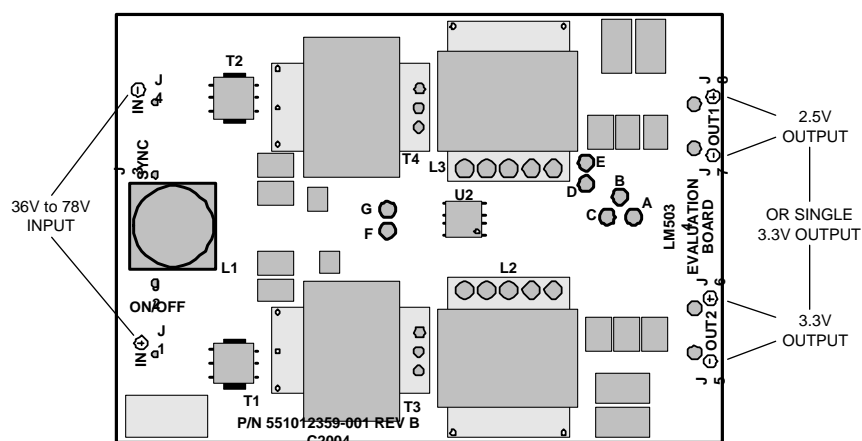
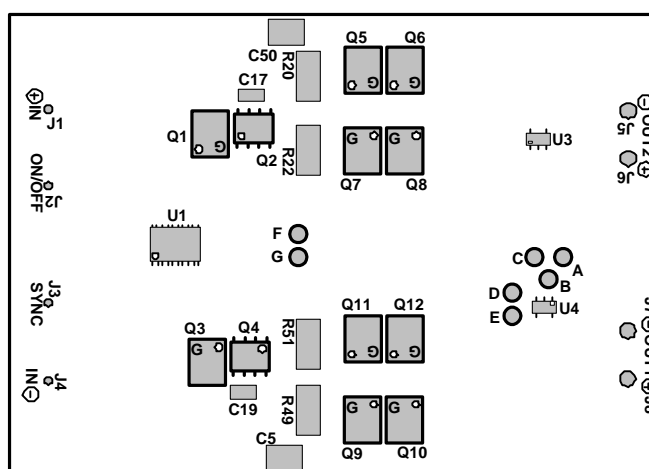
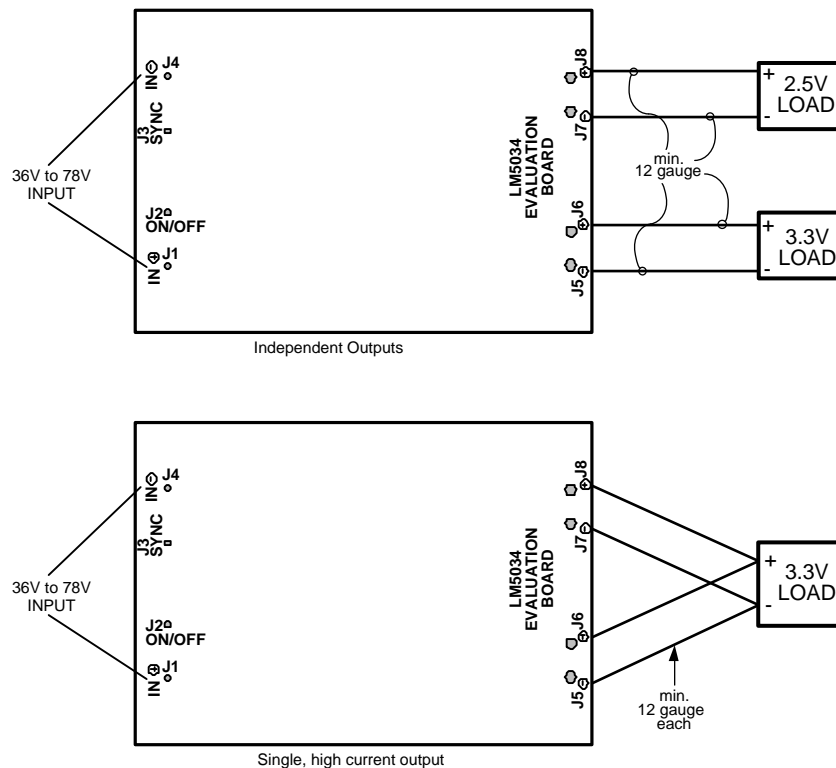

Figure 1. Evaluation Board - Top Side
Figure 2. Evaluation Board - Bottom Side
Figure 3. Connecting the Load(s)
The pictorials in Figure 1 and Figure 2 show the placement of the significant components which may be probed in evaluating the circuit's operation. The following should be kept in mind when the board is powered:
4. At maximum load current the size and length of the wires used to connect the load become important. Ensure there is not a significant drop in the wires. A minimum of 12 gauge wire is recommended for 30A. When configured for a single high current output, it is recommended that equal length 12 gauge wires be used from each output pin to the load. See Figure 3.
Prior to applying power, the jumpers must be set for the desired output configuration. The board is initially shipped with jumper A-B in place, which configures the board for independent outputs - i.e., 2.5V at OUT1 and 3.3V at OUT2. To configure the board for a single 3.3V high current output, it is necessary to remove jumper A-B, and install jumpers in locations B-C, D-E, and F-G. Output pins J6 and J8 must be connected together at the load, as well as output pins J5 and J7, as shown in Figure 3. See Figure 1 for the jumper locations.
When configured for separate outputs, the 3.3V load is connected to J6 (+) and J5 (-) and the 2.5V load is connected to J8 (+) and J7 (-). When configured for a single 3.3V high current output, output pins J6 and J8 (+) are connected together at the load, as are J5 and J7 (-). See Figure 3. A minimum of 12 gauge wire should be used for the 30A load currents.